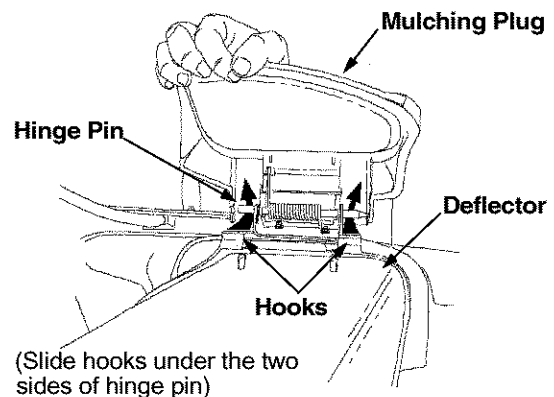

Figure 7
- Make sure the grass catcher is off the unit and the rear discharge door is closed. Refer to Figure 7.
- On the side of the mower, lift the mulching plug. See Figure 7.